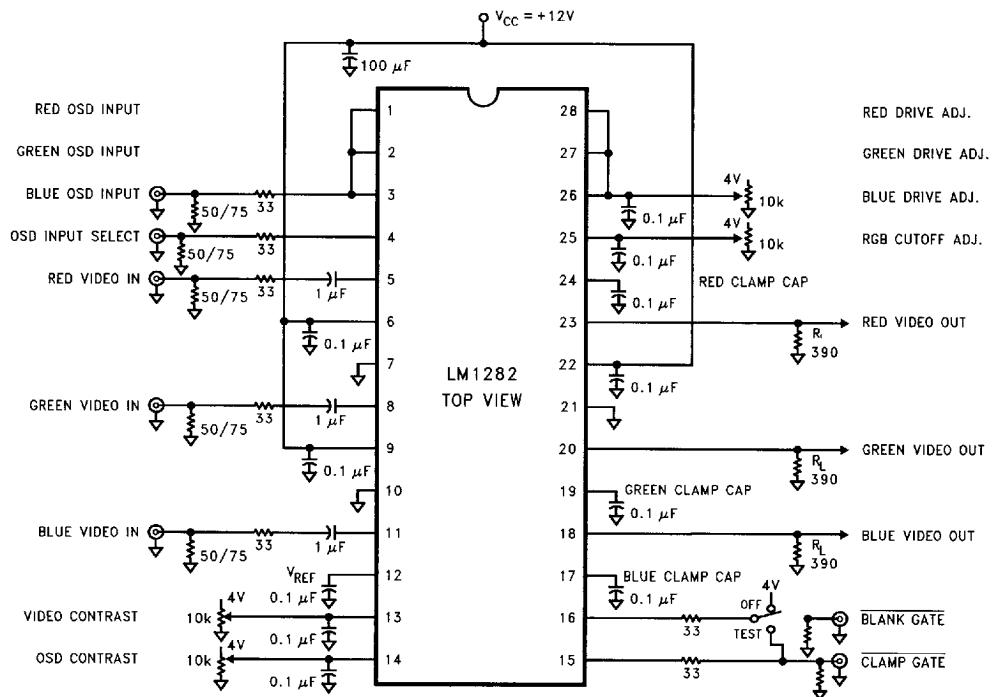

FIGURE 5. LM1282 OSD Video Preamp DC Test Circuit
**Note 7:** The supply current specified is the quiescent current for  $V_{CC1}$  and  $V_{CC2}$  with  $R_L = \infty$ , see Figure 5's test circuit. The supply current for  $V_{CC2}$  (pin 22) also depends on the output load. With video output at 1V DC, the additional current through  $V_{CC2}$  is 8 mA for Figure 5's test circuit